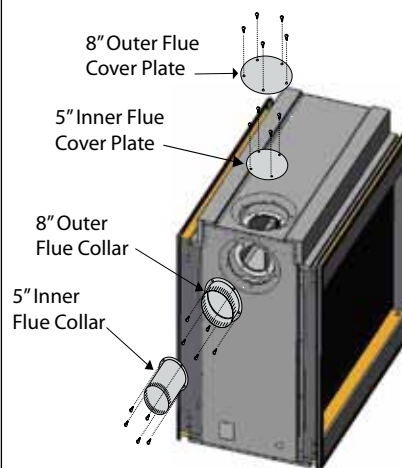

Figure 8a. Installing the side vent/top flue covers.
1. Install the 5" inner flue collar on the side flue outlet and secure the cap in place with four (4) screws, as shown in *Figure 8a*.
2. Install the 8" outer flue collar on the side flue outlet, and secure it with five (5) screws, as shown in *Figure 8a*.
3. Install the flue gasket material and flue cover plate on the top vent outlet. Fasten the plate with four (4) screws, and five (5) screws as illustrated.
4. Install the 4" or 5" inner flue collar and the 7" or 8" outer flue collar in place on the side vent outlet using five (5) screws, as illustrated below.